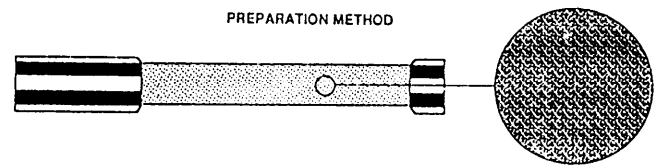

Figure 12-7.—A 2- to 3-mil anchor-tooth profile.
**ABRASIVE BLASTING.**—Before thermal spraying, use abrasive blasting to condition the surfaces to be coated. Blasting must not be so severe as to distort the part. The required depth of surface roughness is related to the configuration (size and shape) of the part. Where part configuration permits, use a roughness profile of 2 to 3 mils (as shown in figs. 12-7 and 12-8). When this depth may cause distortion because of the part configuration, you can reduce the anchor-tooth pattern to a 1-mil profile.